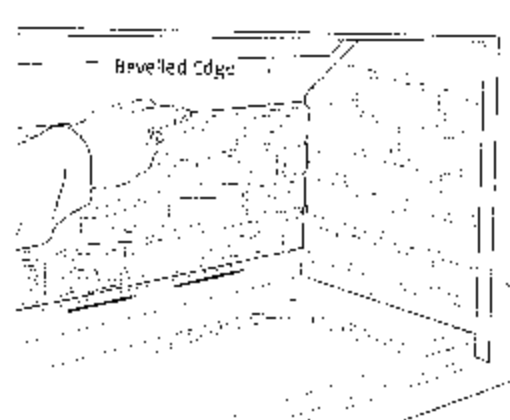

Figure 40. Install Lower Rear Panel.
- 4. Install the Lower Rear Panel.** Orient the panel so that the beveled edge is on top and the mortar joints align with those on the side panels. Set the bottom edge on the shelf above the restrictor adjustment slots at the back of the firebox. The panel should fit snugly between the two side panels. See fig. 40.